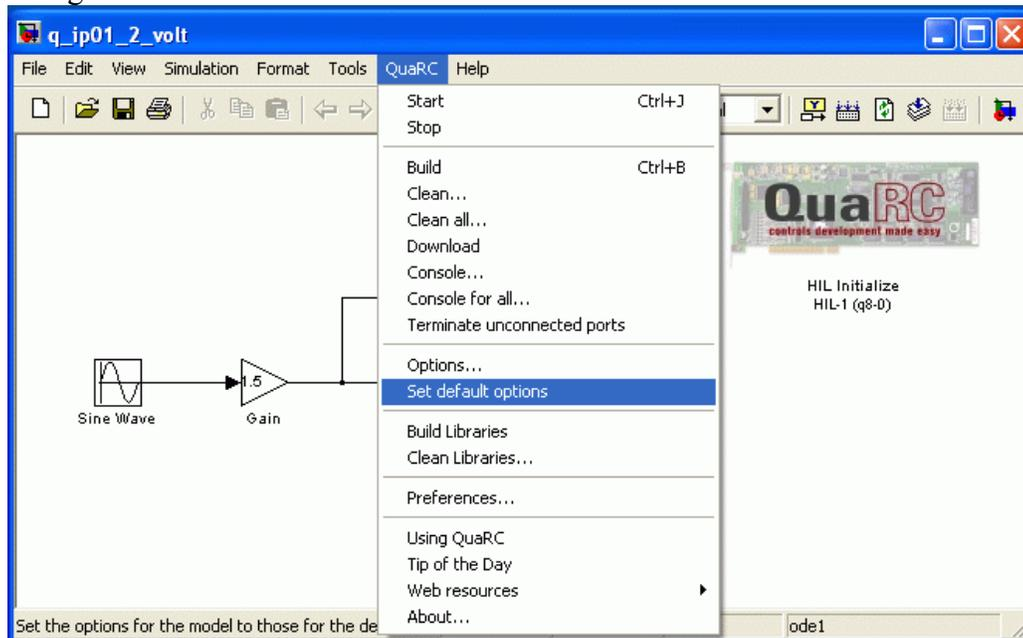

Figure 5: Setting up a Simulink diagram to generate code using QuaRC.
1. In the Simulink diagram designed in Section 5.1.1, go to the *QUARC | Set default options* item to set the correct Real-Time Workshop parameters and setup the Simulink model for external use (as opposed to the simulation mode). This is shown in Figure 5.